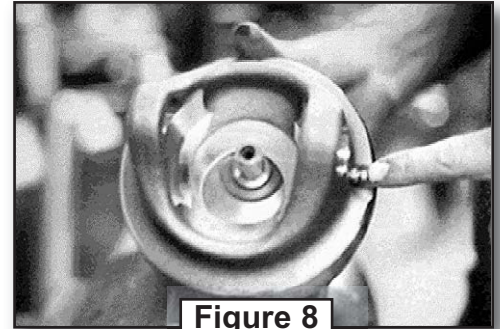

Figure 8
5. Make sure the grease fitting in the center housing is clean, unobstructed, and undamaged. Replace this if necessary (see *Figure 8*).